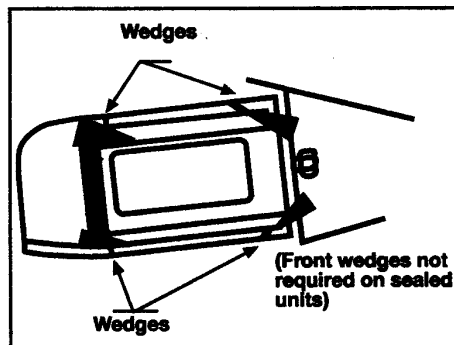

FIGURE 11: WEDGES
2. Hold the armature and bracket in alignment within the base casting by driving hardwood edges between the armature bracket (J) and base casting (X). (Refer to Figure 11)